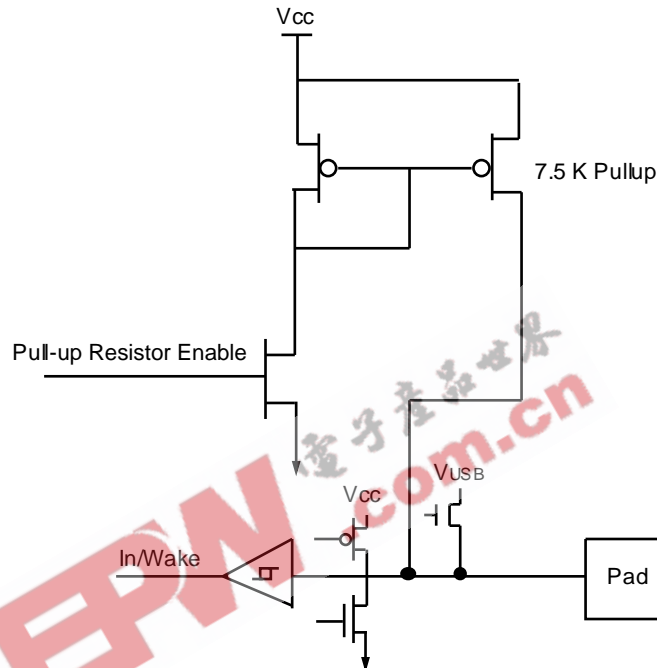

Figure 10. Port B (6–7) Serial Communication Port
Port B (6) has a programmable internal pullup of $7.5\text{ K} \pm 30\%$. For USB Mode, Port B (7) requires an external pullup of $7.5\text{ K} \pm 1\%$ to V_{CC} (Figure 10).